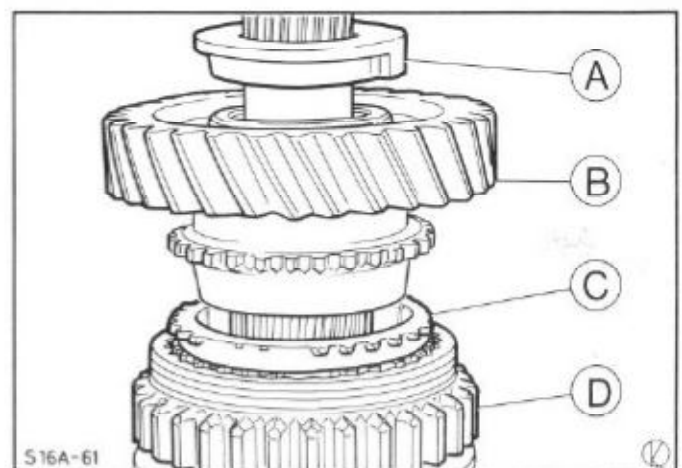

Fig.130. A - Oil scoop ring
31. Insert 1st gear side synchroniser spring and position 1st gear cog with synchroniser ring and oil scoop ring on the hub, Fig.130.